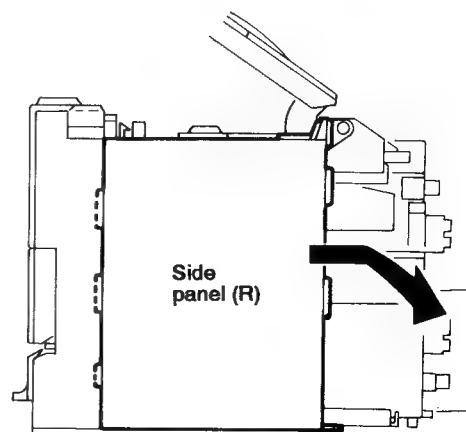

Fig. 5-6
4. While moving the side panel (R) in the arrow direction, remove this panel from the right side of the body (See Fig. 5-6).